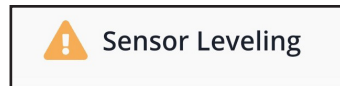

Fig.11
2. The option "Sensor Leveling" will appear at the bottom of the app (Fig.11). Tap to open the bubble leveling tool.
3. To zero BottleCheck, tap Sensor Leveling (Fig.11) and then select "Zero Sensor" (Fig.12).